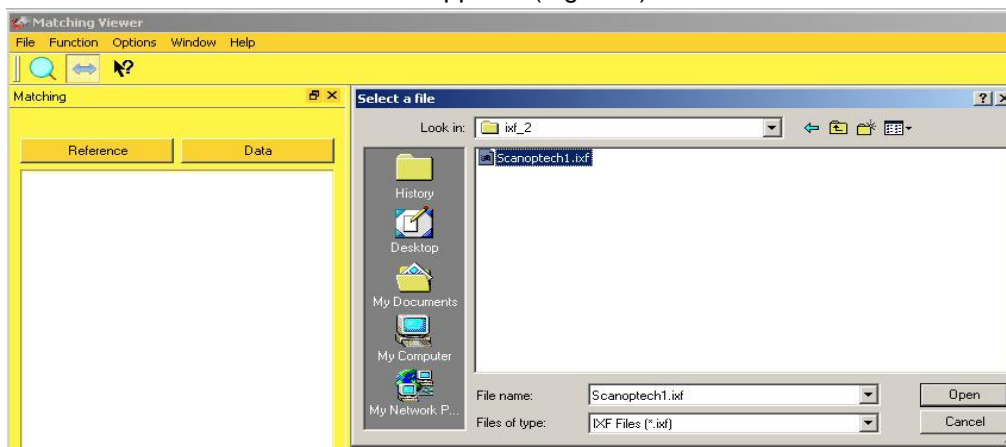

Figure 8: File selection window for source 1
| Figure 8: File selection window for source 1 | 6 |
2. Click **Reference**. A file selection window appears (Figure 8).